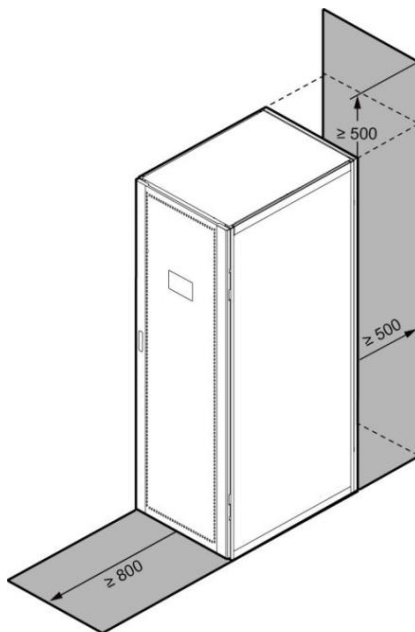
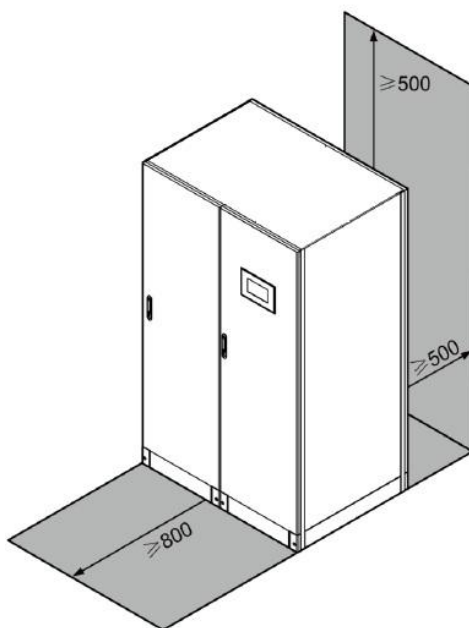

Fig. 2-4 Reserved space of 200 and 300KVA UPS (unit: mm)
Fig. 2-5 Reserved space of 400kVA, 500kVA and 600kVA UPSs (unit: mm)
- The reserved space is shown in Fig. 2-4 and Fig. 2-5.